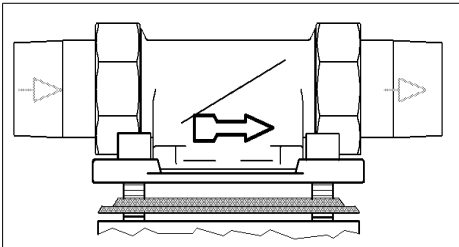

Fig. 1: Built-in rotary flange
- direction of flow (see Fig. 1)